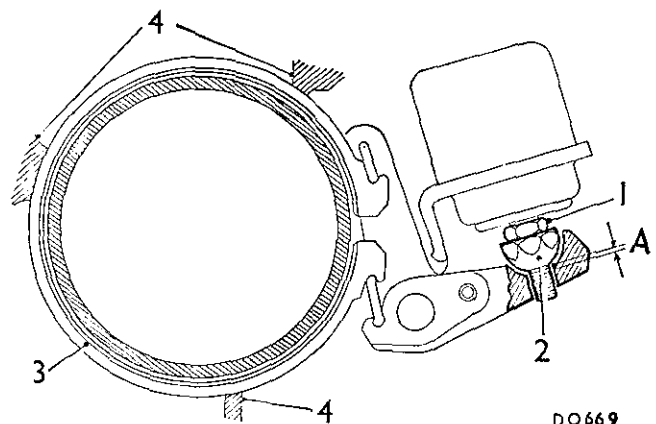

Fig. Fa.23
- (42) Screw the gear change selector rod fully into the valve block linkage. Check and reset if necessary the selector rod adjustment (see Section Fa.2).
- (43) Adjust the second, third, and reverse servos (see Fig. Fa.23). Slacken the locknut (1) and the spherical adjuster (2) until each brake band (3) is in contact with the transmission casing stops (4). Adjust each adjuster (2) until the clearance 'A' is obtained, and tighten the locking nut (1).
- (44) Fit a new seal to the front cover bobbin, and refit the cover using a new joint washer.